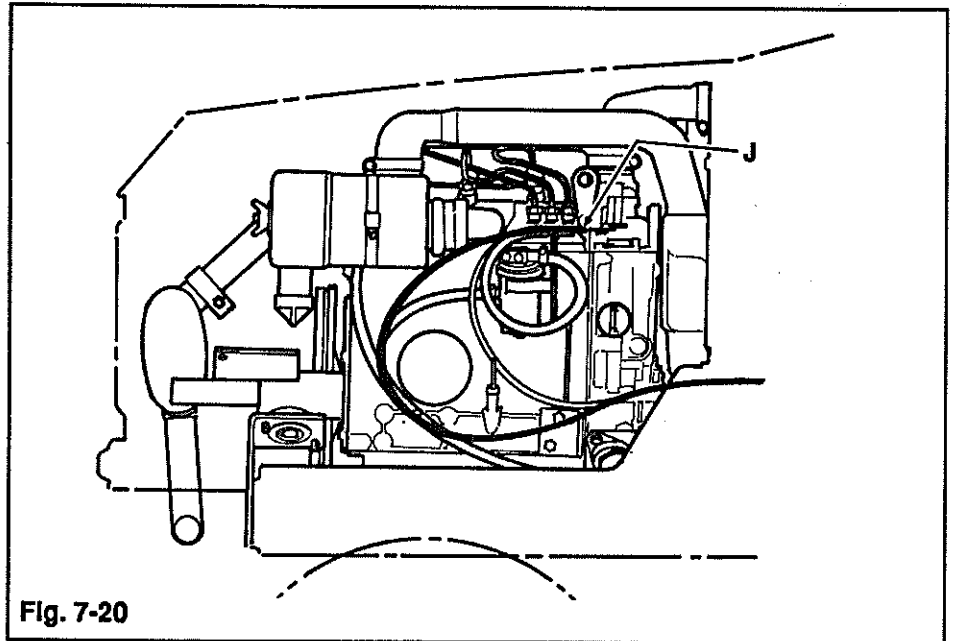

Fig. 7-20
10. Connect the throttle and shut-off cables (J, Fig. 7-20). Check for proper routing around engine mount, and adjust for full travel of each control.
13. Install hood, grille and side panel assembly. Place the assembly over the front of the tractor and install the two (2) 1/4" capscrews to the rear at the grill braces. Lift the grille into place and install the four (4) 3/8" capscrews into the grille and front engine mounts. Tighten all hardware.